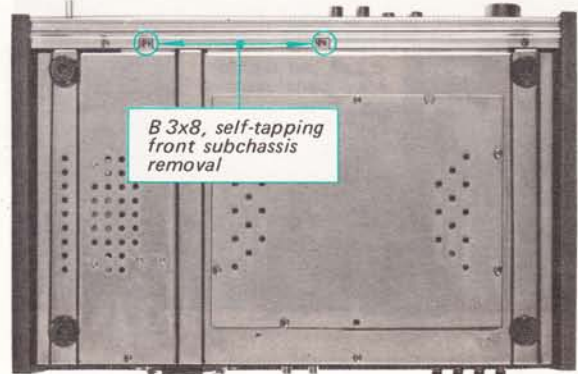

Fig. 2-8. Front subchassis removal (Bottom view)
1. Remove the two screws from the front bottom of the chassis as shown in Fig. 2-8.